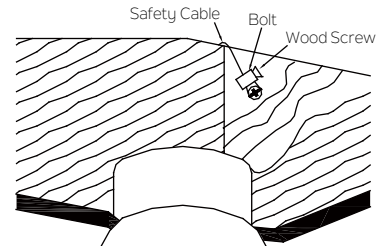

Fig. 14
Step 2. Insert the safety cable through the mounting bracket and one of the holes in the outlet box into the ceiling. Adjust the length of the safety cable to reach the screw and washers by pulling the extra cable through the cable clamp until the overall length is correct, put the end of the cable back through the cable clamp, forming a loop at the end of the cable. Tighten the cable clamp securely. Now, put the loop in the end of the safety cable over the wood screw and under the washer. Tighten the wood screw securely. (Fig. 14)